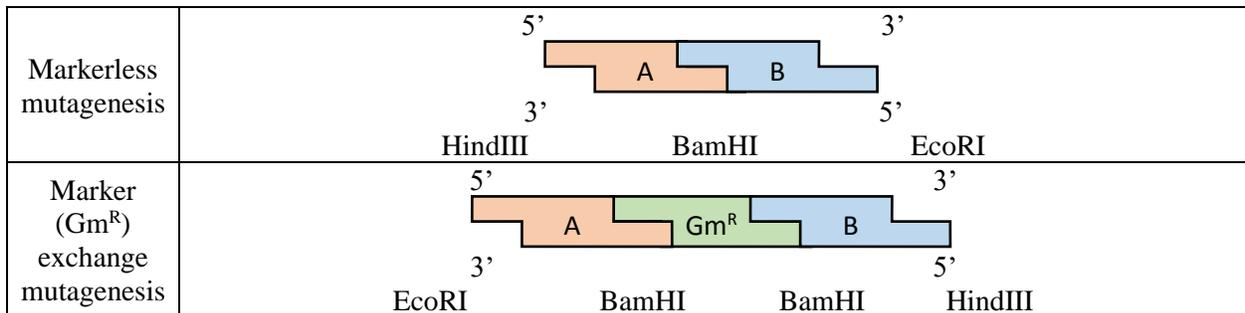

Figure 1. Construction of inserts
* When designing primers, make sure the amplicons do not contain restriction sites except for those at either end to prevent incorrectly truncated arms. For directional insertion into the vector, use 3 distinct, compatible restriction sites, one on either end of the arms AB construct, and identical site connecting arms A and B. For an example of the construct, refer to Figure 1. (Online compatibility check for NEB restriction enzymes: <https://nebcloner.neb.com/#!/redigest>)
1. Digest *pK18mobsacB* with restriction enzymes (*HindIII* and *EcoRI* from example in Figure 1) following the manufacturer's instructions.
1. Digest the verified recombinant vector from above with the restriction enzyme targeting the site connecting arms A and B (*BamHI* from example in Figure 1). Make sure to dephosphorylate vector to prevent re-ligation. (Quick CIP from NEB is used.)